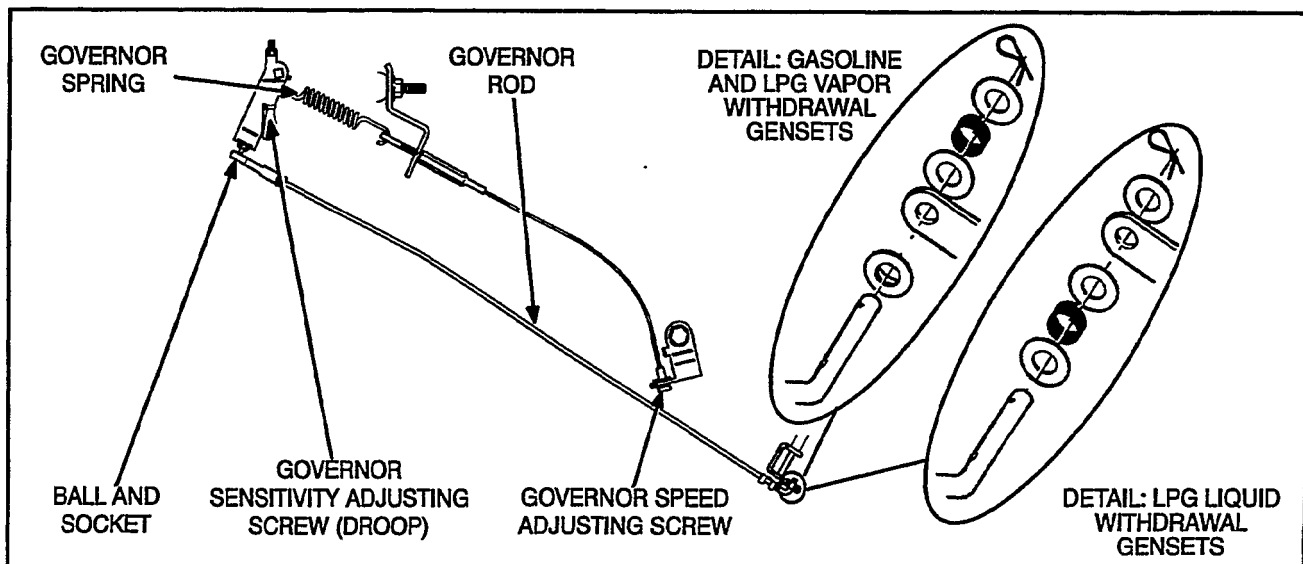

FIGURE S-2. GOVERNOR ROD
Governor Rod Length Adjustment: The length of the governor rod (Figure S-2) must be checked and adjusted as follows before other adjustments are attempted:
- A. If droop (from no-load frequency) is more than 3 Hz (3.5 Hz) for Model BGE or 4 Hz (3.5 Hz) for Model NHE, turn the governor sensitivity adjusting screw (Figure S-2) one turn counterclockwise. Disconnect the load and, if necessary, readjust the governor speed adjusting screw to return to 62-63 Hz (51.5-52.5 Hz) no-load frequency. Check droop again and repeat the adjustments, if necessary.
- B. If droop (from no-load frequency) is less than 2 Hz (2 Hz) for Model BGD or 3 Hz (2 Hz) for Model NHD, turn the governor sensitivity adjusting screw (Figure S-2) one turn clockwise. Disconnect the load